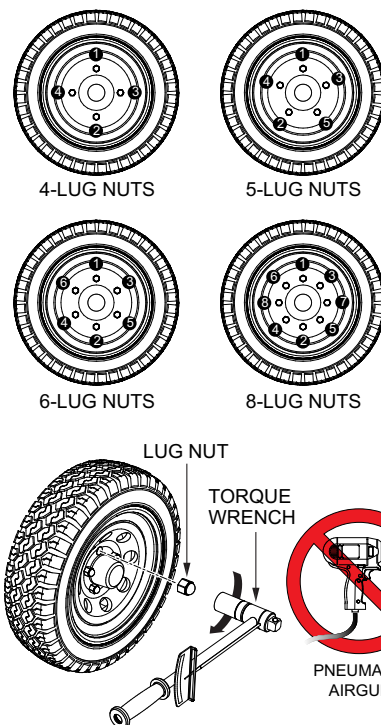

Figure 38. Wheel Lug Nuts Tightening Sequence
2. Torque all lug nuts in sequence. See Figure 38. **DO NOT** torque the wheel lug nuts all the way down. Tighten (torque) each lug nut in 3 separate passes as defined by Table 10.